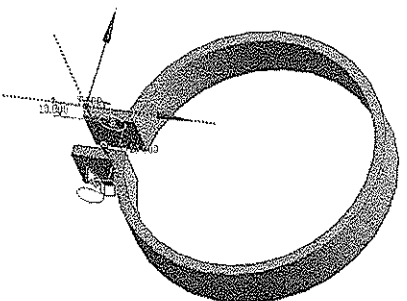

Figure 3-109 Specifying the face up to which the material will be removed
15. Select the bottom face of the second flange, refer to Figure 3-109; the material is removed up to the specified surface.